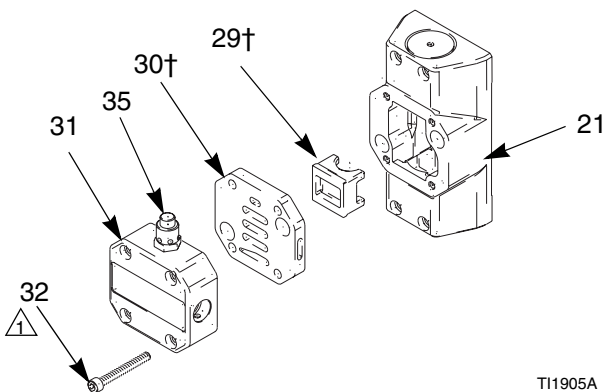

FIG. 6. Air Valve Cover, Seat, and Cup
2. Remove the air valve cover (31), seat (30), and cup (29). See FIG. 6.
4. Install the o-rings (23†) on the bushings (22) and install one bushing in the housing (21). Install the piston (24†) and the other bushing. Install the setscrews (36) to secure.
5. Place the cup (29†) into the housing (21) so it rides on the air valve piston. See FIG. 6.
6. Install the seat (30†) and cover (31) as shown. Make sure the holes in the seat align with the holes in the housing (21), and note the orientation of the relief valve (35) in the cover. Torque the screws (32) to 10-11 N•m (90-100 in-lb).